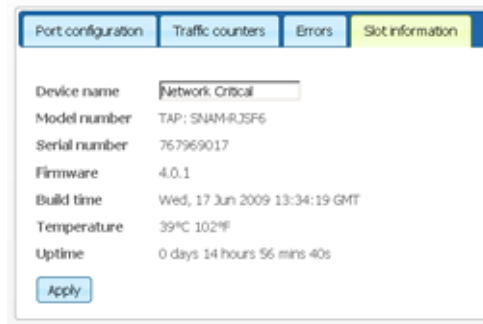

Figure 33: Slot information details
- 3 Click **Configuration and Status**, and then select the **Slot information** tab to display the slot details (*Figure 33*).